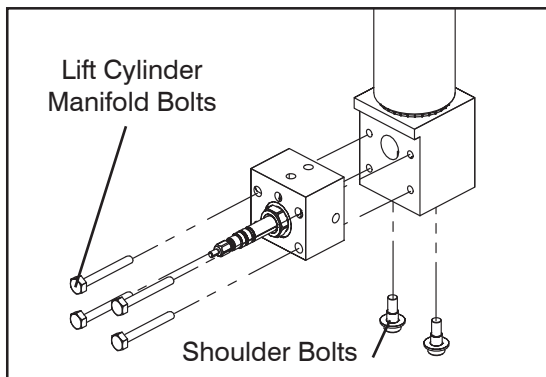

Figure 5-28. Lift Cylinder Manifold Installation
5. Install the lift cylinder manifold bolts and shoulder bolts in the proper orientation. (Use Loctile 242 or equivalent on the shoulder bolts and torque them to 13 lb-ft). See Figure 5-28.